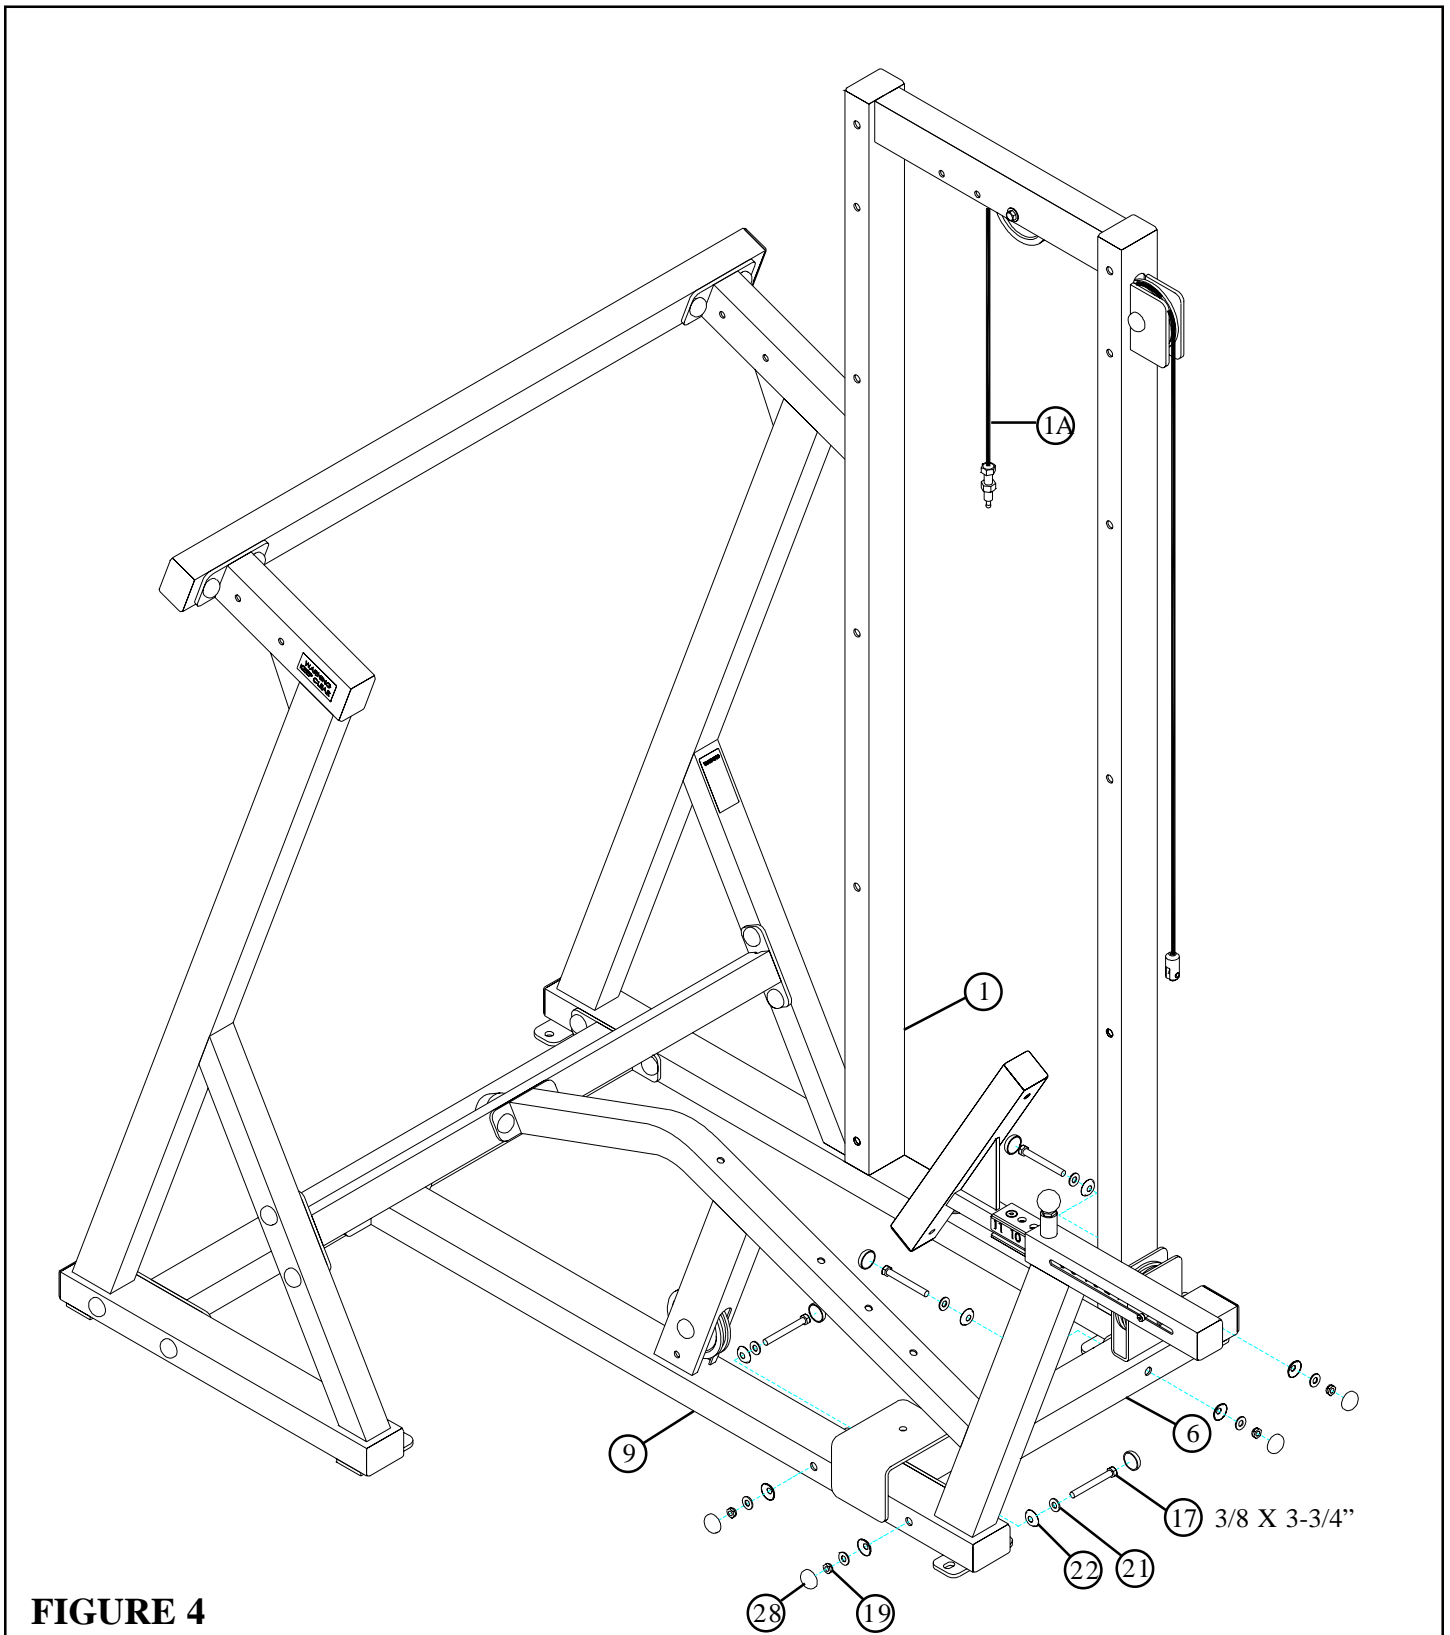

FIGURE 4
- **LOOSELY** assemble the REAR CROSS SUPPORT (6) to the TOWER (1) and the SEAT FRAME (9) using eight RH CAPS (28), four 3/8 X 3-3/4" BOLTS (17), eight 3/8" SAE WASHERS (21), eight 3/8" RH WASHERS (22) and four 3/8" LOW HEIGHT LOCK NUTS (19) as shown in FIGURE 4.
- **Securely tighten all loose frame connections made to this point, then proceed to snap RH CAPS (28) over the RH WASHERS (22) on all tightened connections.**